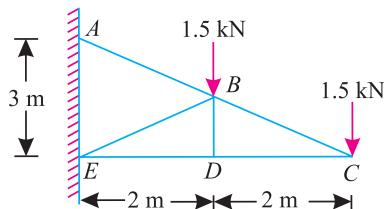

Fig. 13.38.
2. A cantilever truss of 4 m span is carrying two point loads of 1.5 kN each as shown in Fig. 13.38